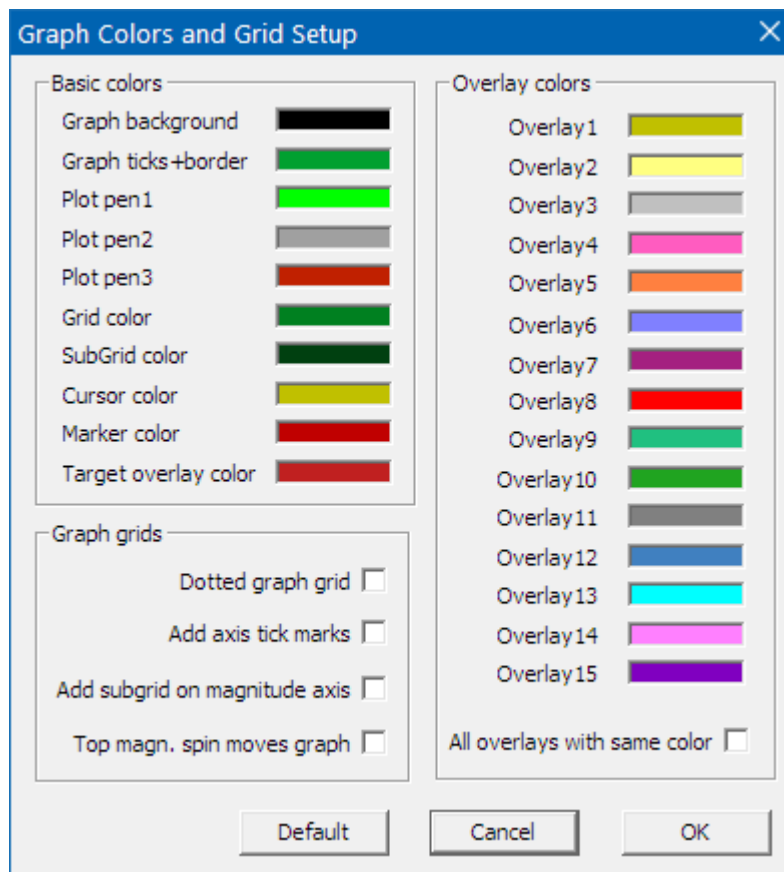
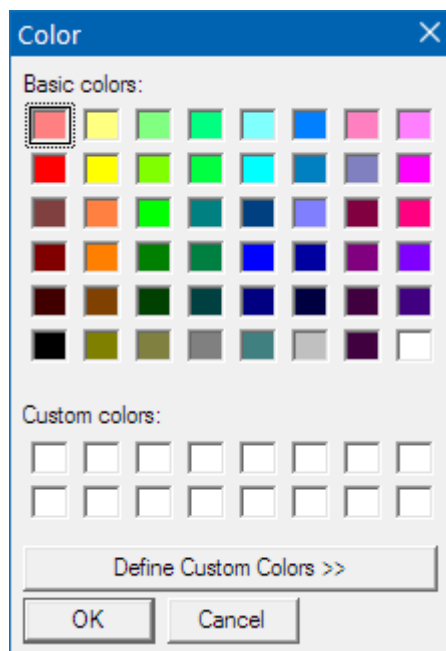

Figure 2.8 Dialog boxes for graph color setup (different colors are used for black and for white graph background)
Figure 2.9 Standard Windows color picker
- User sets an arbitrary foreground color for every graph element by clicking the menu command '**Edit->Colors and grid style**'. That opens the '**Color Setup**' dialog box shown in Fig. 2.8. Clicking the left mouse button on a named color rectangle opens the standard Windows dialog box '**Color**' shown in Fig.2.9.